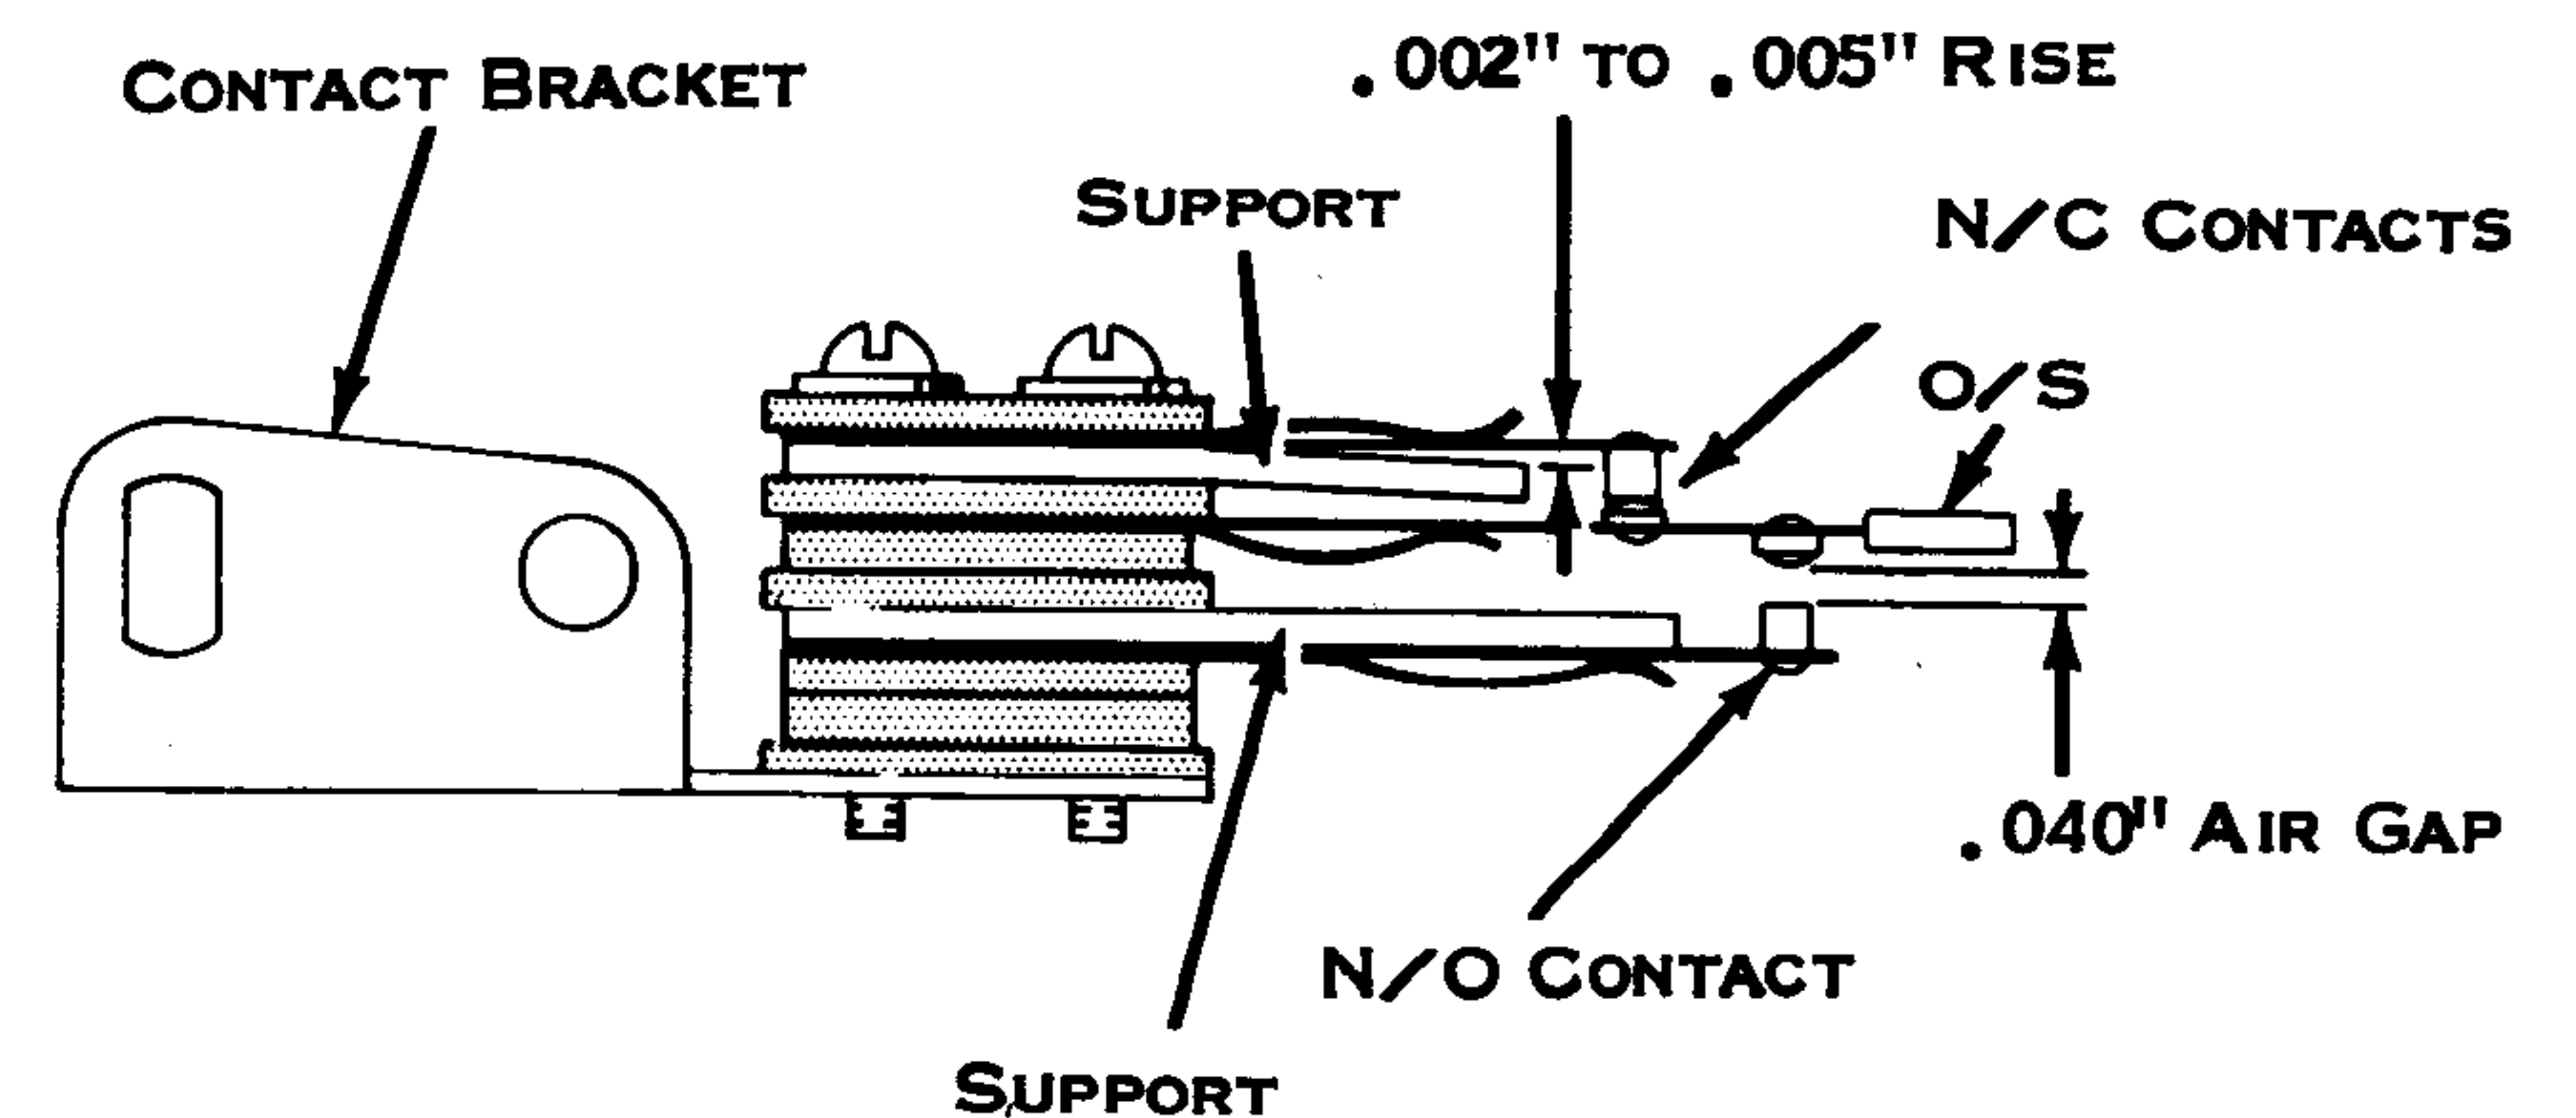

Figure 47. Mode Contact
11. Keyboard Mode Contacts - Form the N/C support so that the O/S lifts the N/C contact by .002" to .005" (Fig. 47).
12. Form the N/O support so that the N/O contact clears the O/S by .040" (Fig. 47).